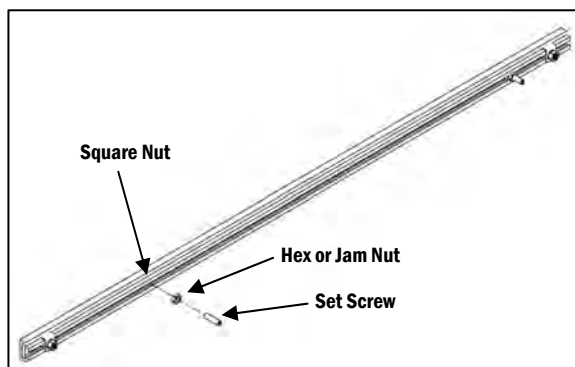

Figure 2
b. Screw the 1/4-20 x 1" Set Screws into the 1/4-20 Square Nuts, positioning them so they are spaced evenly with the guide brackets. They do not need to be fully tightened at this time, as some adjustment in the channel may be necessary (Figure 2).